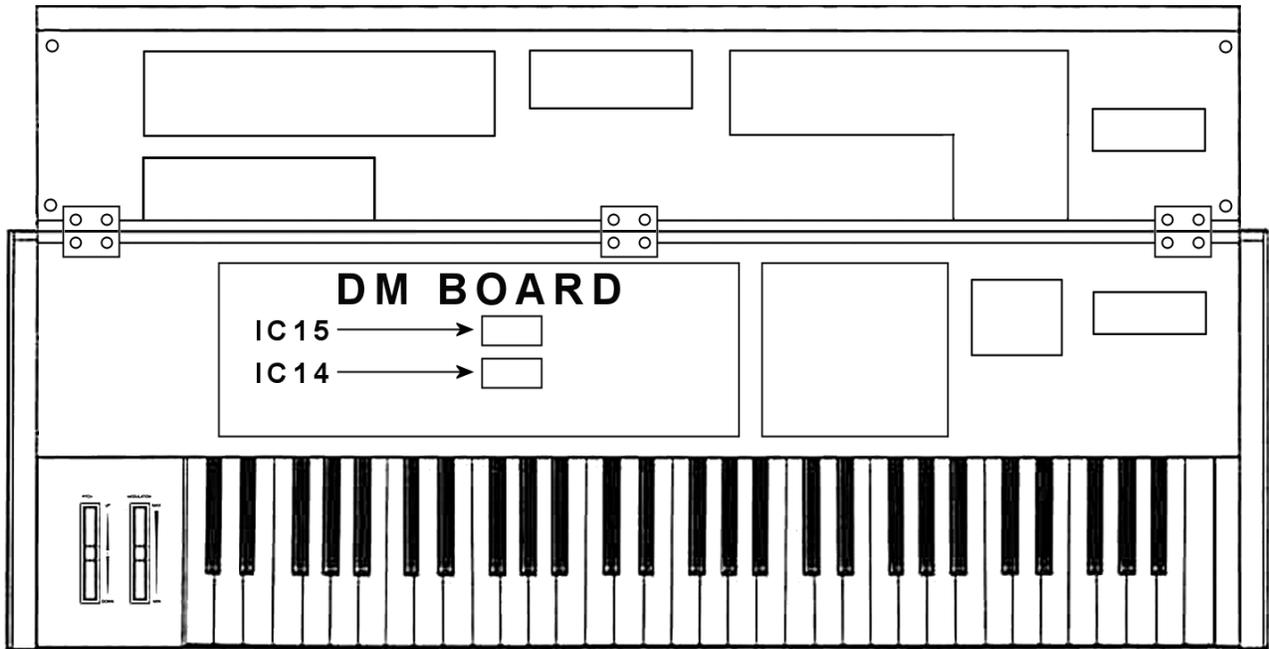

FIGURE A2
STEP 3: Carefully lift up the edge of the DX7's front control panel, closest to the keyboard, and open it all of the way until it is resting against the back edge of the DX7 case as shown in **FIGURE A2**.
STEP 4: Referring to **FIGURE A2**, locate the ROM ICs (IC14 and IC15). These ROM ICs are located near the center of the Main Circuit board (the DM board). Before removing the ROM ICs, note the direction of the notch on IC14 for future reference. Remove the IC14 and IC15 ROM ICs by utilizing the SMALL FLAT-BLADE screwdriver to carefully pry the ICs loose from their respective sockets.